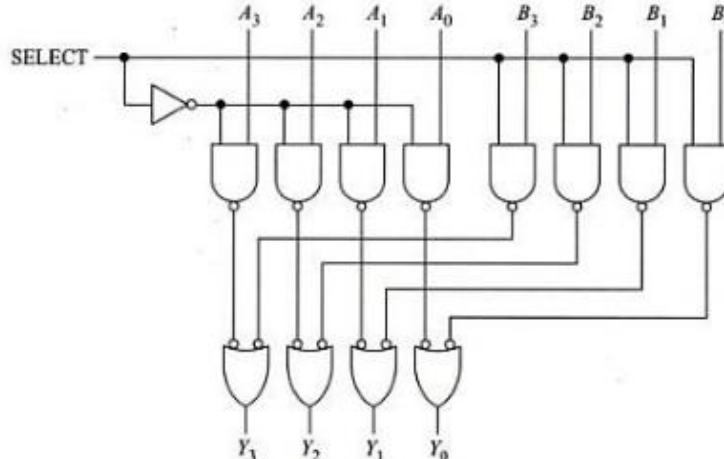

Figure: 4.6: Nibble Multiplexers
- The control signal labeled SELECT determines which input nibble is transmitted to output (Fig: 4.6).